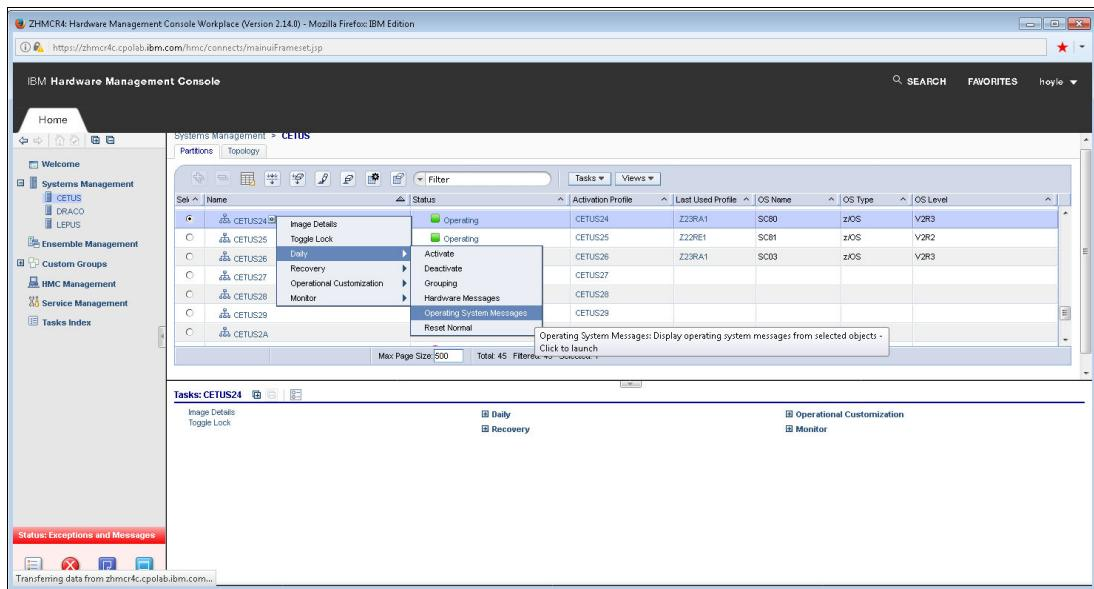

Figure 13-12 Operating System Messages
3. Select **Daily** → **Operating System Messages** as shown in Figure 13-12.